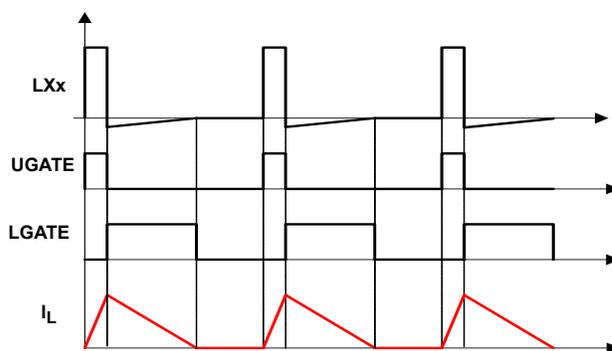

FIGURE 54. DIODE EMULATION
Diode Emulation (DE) allows for higher converter efficiency under light-load situations. In DE mode, the low-side MOSFET conducts when the current is flowing from source-to-drain and does not allow reverse current, emulating a diode. As shown in Figure 54, when the LGATE signal is HIGH, the low-side MOSFET carries current, creating negative voltage on the phase node due to the voltage drop across the ON-resistance. When the DE pin is pulled HIGH, the ISL70003ASEH will be in Diode Emulation mode and detect the zero current crossing of the inductor current, and turn off the lower MOSFET to prevent the inductor current from reversing direction and creating unnecessary power loss. This ensures that Discontinuous Conduction Mode (DCM) is achieved. Since diode emulation prevents the low-side MOSFET from sinking current, no negative spike at the output is generated during prebiased startup when DE mode is active.